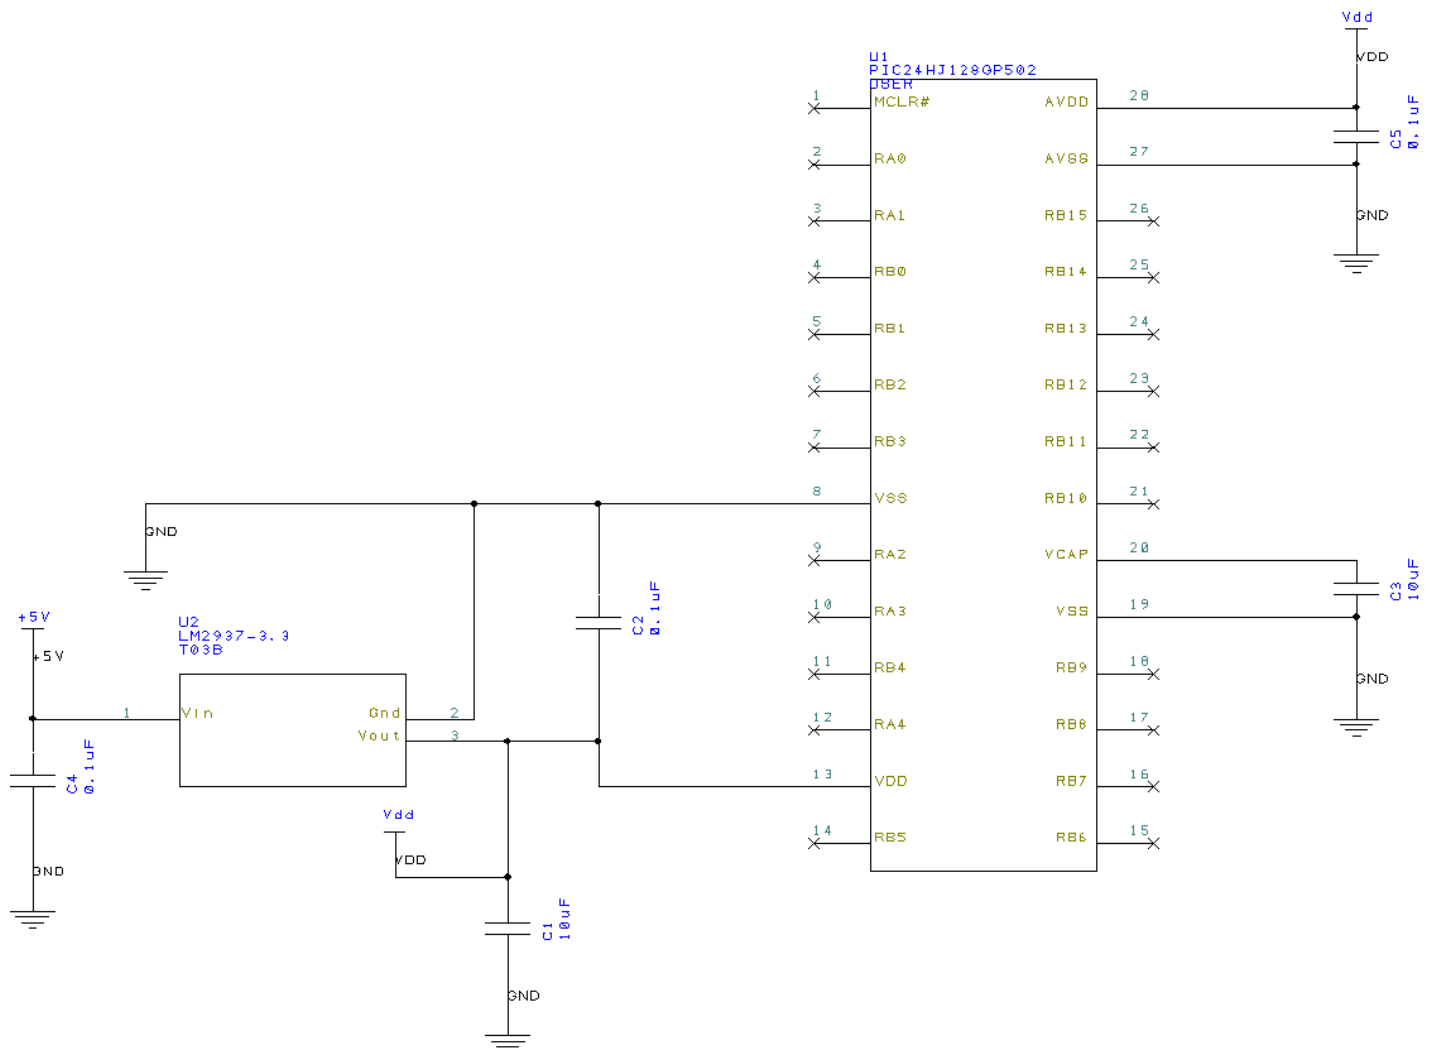

Figure 1. PIC24HJ128GP502 and Partial Power Circuitry
The schematic in Figure 1 uses the LM2937-3.3 component as the voltage regulator for the PIC24 system. This is the device that will provide the power necessary for the PIC24 to operate correctly. Without a correct and stable power source, the PIC24 will either not operate at all or (even worse) operate with unexpected behavior.
Using PCB Artist, create a basic power circuit for a PIC24 system. Your schematic should closely resemble the schematic shown in Figure 1. The ECE383 component libraries available on the class website include the PIC24HJ128GP502 microprocessor and the LM2937-3.3 voltage regulator components. The *Vdd* and *GND* components are located in the *schema* library. The capacitor (C) components, labeled C1-C5, are available in the *discrete* library. You will use multiple instances of the capacitor (C) component in this design. Note carefully that the capacitors have differing values and these values should be displayed in your circuit. The values for individual capacitors may be changed by right clicking on the component, selecting *Properties->Values* and setting the "Value=..." entry to the appropriate value. The capacitor's value is displayed in the circuit diagram if the radio checkbox for the "Value=..." entry is checked.